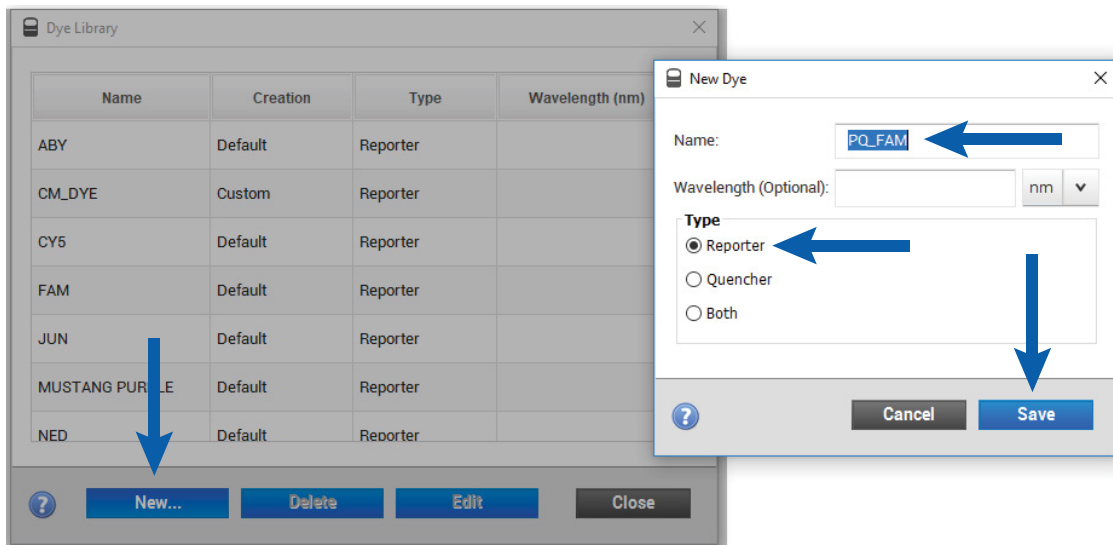

Figure 33. Adding a new custom dye to the Dye Library.
2. Add the five PowerQuant® custom dye names by selecting the **New** button (Figure 33).
- Confirm that “Reporter” is selected as the Type for each dye (Figure 33).